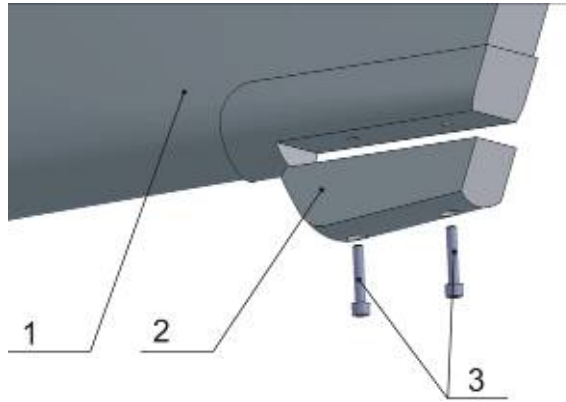

Fig. 55-30-2
B. Skid Plate Removal (Fig. 55-30-2)